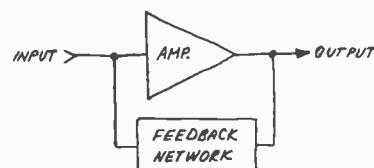

Fig. 1. Basic oscillator is amplifier with feedback.
**Preliminary Information.** The configuration of the basic feedback-type oscillator is shown in Fig. 1. It is simply an amplifier to which has been added a feedback network. This type of oscillator goes by various names (Hartley, Colpitts, Armstrong, etc.), but the op-